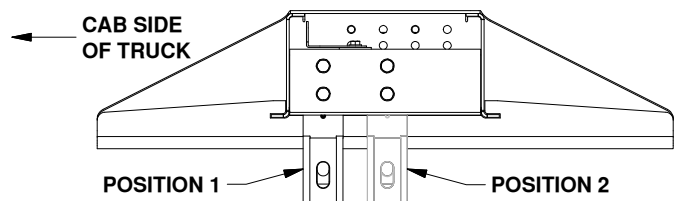

Figure B1: Cutaway view of Companion base with both socket post positions shown.
- 1. Determine socket post orientation.** The socket post of the Companion hitch has two mounting options. These two options allow the king pin of the trailer to be placed close to the rear axle whether the Turnoverball socket is located in front of, directly over, or slightly behind the rear axle. Position 1 is recommended for trucks where the socket is in front of the axle. Position 2 is recommended for trucks where the socket is directly over or slightly behind the axle. See Figure B1.